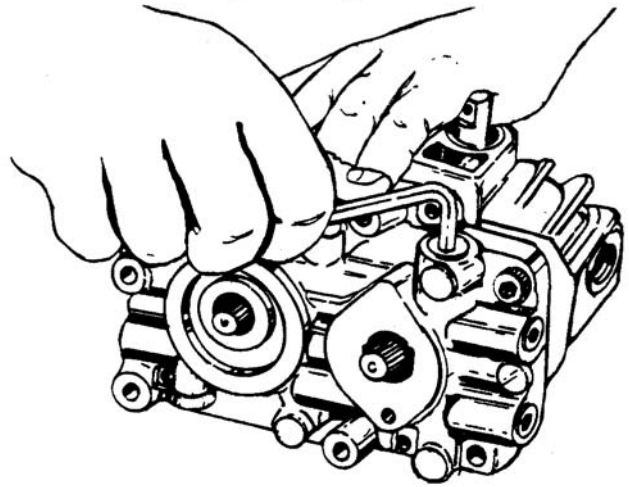

Figure 6-72. Tightening Plug
c. Tighten plug. See Figure 6-72.